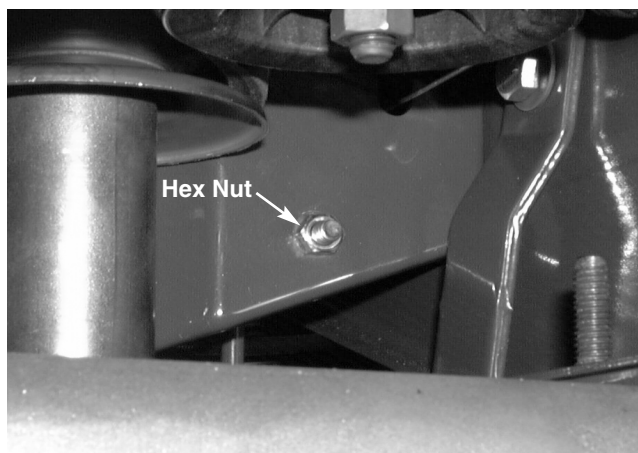

FIGURE 6.
- 12). Loosen the hex nut and lock washer that secures the right side of the half circle belt keeper to the frame using a 7/16 socket and a 6" extension. See figure 6.